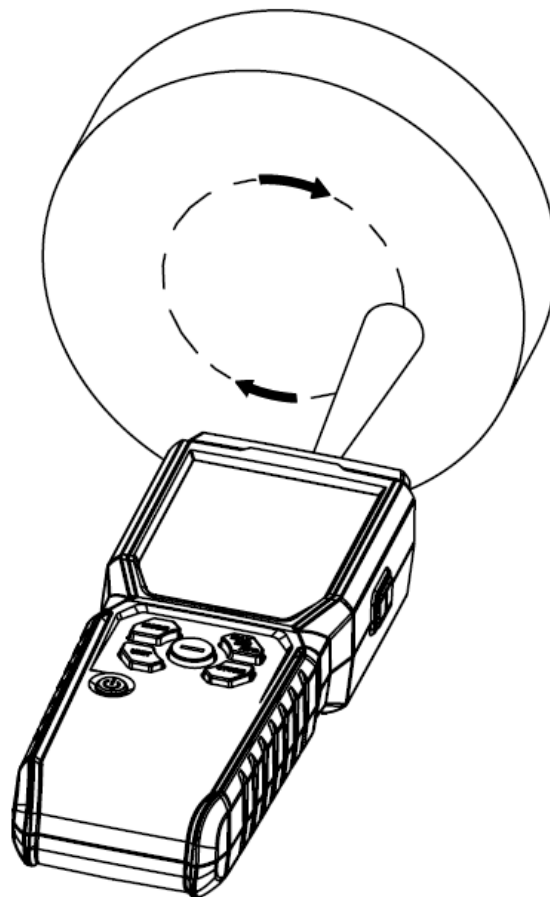

Figure. 4
1. Non-Contact—RPM/Hz (Figure 4)